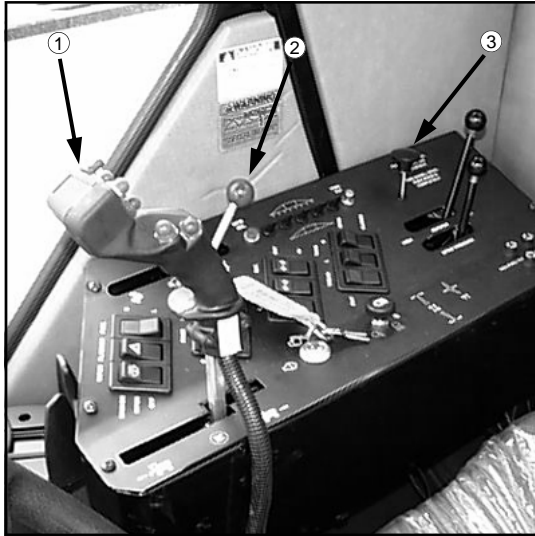

FIG 5.1
1. Increase engine RPM with the throttle lever (fig. 5.1, item 2) to the maximum recommended engine speed setting.
2. To move forward, slowly push the hydrostatic control lever (fig. 5.1, item 1) forward. The farther the control lever is moved, the faster the sprayer will travel. To stop, slowly pull the lever to the "N" (neutral) position.
4. To engage the hydrostatic system in four wheel drive, pull up on the control knob (fig. 5.1, item 3). To return to two wheel drive, push the control knob down.